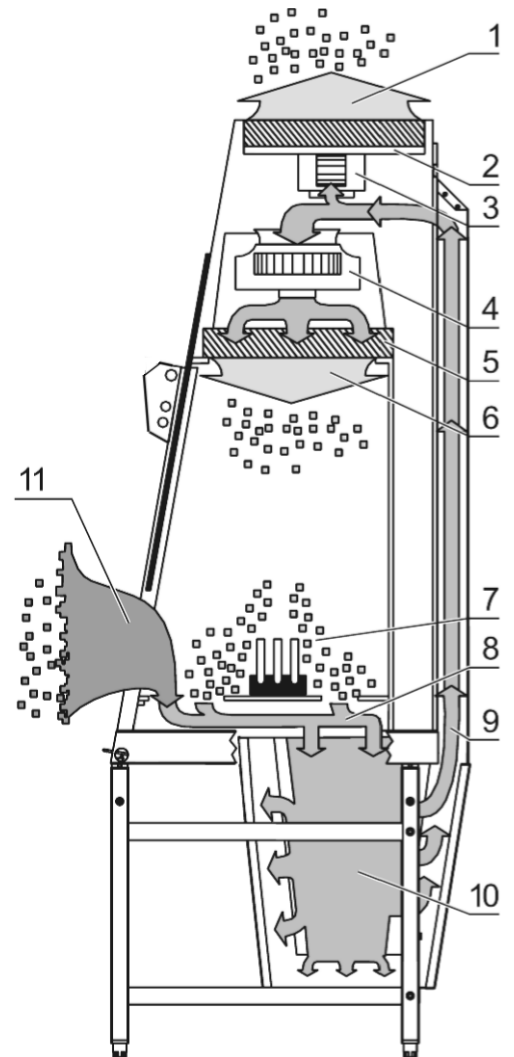

Fig. 4b
**Fig. 4b:** The filter system consists of a set of HEPA primary filter [10] (the number of filters depends on the sample chamber width) and two HEPA filters [2] and [5] for downflow air and exhaust air.